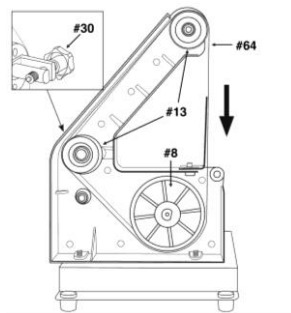

Fig. 22
2. Rotate the abrasive belt (#64) by hand to check the tracking. The belt should be tracking along the centre of the wheels (#8, 13) (Fig. 22).
3. When looking at the front of the tool, adjust the abrasive belt accordingly using the tracking knob (#30) (Fig. 22):